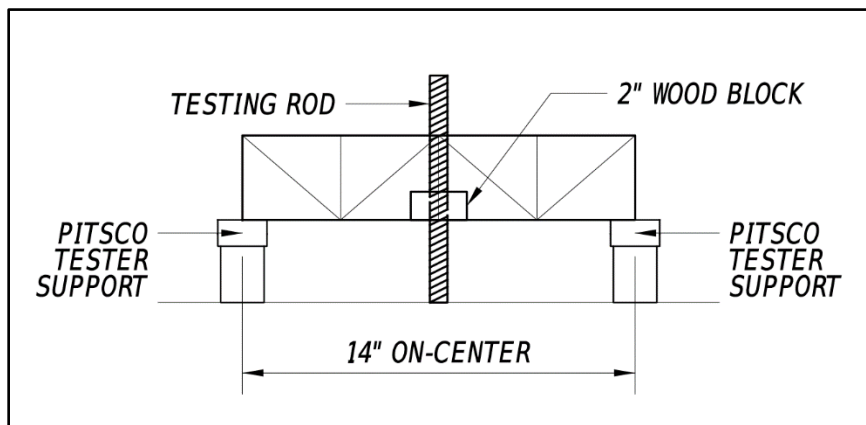
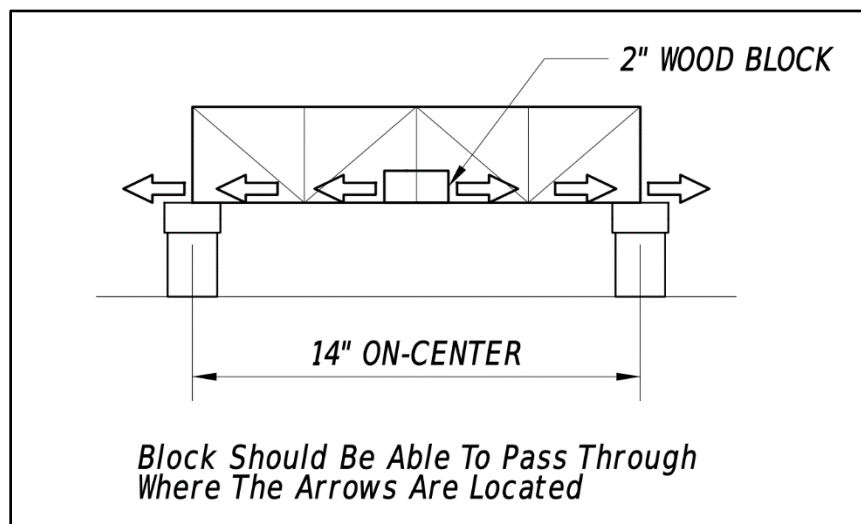
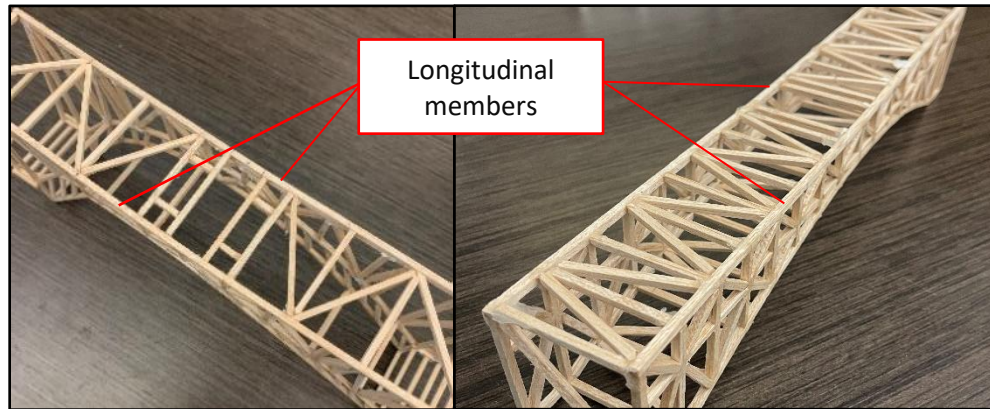

Figure 7. Tester Configuration Detail
Figure 9. Block Requirement
Figure 10. Acceptable Cross Framing
- e) End to end, the length of the entire bridge must be 14 inches, refer to Figure 7.
- g) The area where the bridge will be loaded (center of the bridge) must have at least a  $\frac{3}{4}$ -inch hole to allow a  $\frac{5}{8}$ -inch testing rod to pass through. The rod must also be able to pass through full height of the structure to insert the rod into the tester. This is required to attach the rod to a 2-inch x 2-inch x 1-inch block of wood used for strength testing by the Pitsco Tester. An example configuration can be seen in Figure 7. The block of wood must be able to pass through the loading surface of the bridge (a solid bridge deck of any kind is not allowed), refer to Figure 9. No more than 2 longitudinal members will be permitted in any single horizontal layer of the bridge structure (refer to Figures 10 & 11 for more detail). Please note, figures do not represent the required design and shall only be used for reference.
- h) Tester supports will be placed at 14 inches on center. Support dimensions are shown above in Figure 7.
- j) The following will result in a bridge receiving a strength-to-weight ratio of zero (0). PLEASE NOTE, if you have questions or concerns of violating any of these, please contact us.
- iii. Laminations greater than two (2) layers in any direction (see figures above).